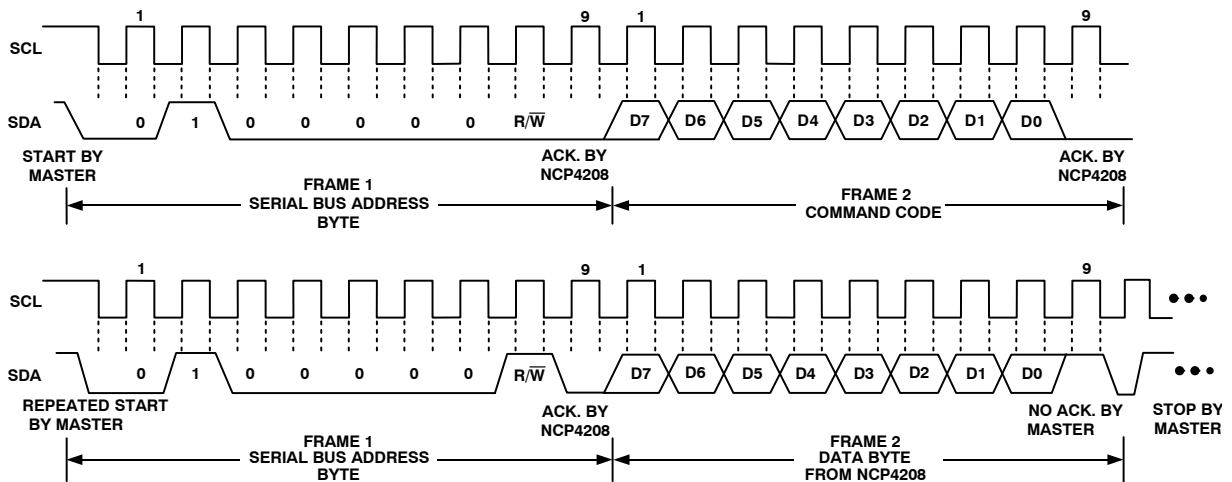

Figure 13. Read Byte
2. The read byte operation is shown in Figure 13. First the command code needs to be written to the NCP4208 so that the required data is sent back. This is done by performing a write to the NCP4208 as before, but only the data byte containing the register address is sent, because no data is written to the register. A repeated start is then issued and a read operation is then performed consisting of the serial bus address;  $R/\overline{W}$  bit set to 1, followed by the data byte read from the data register.